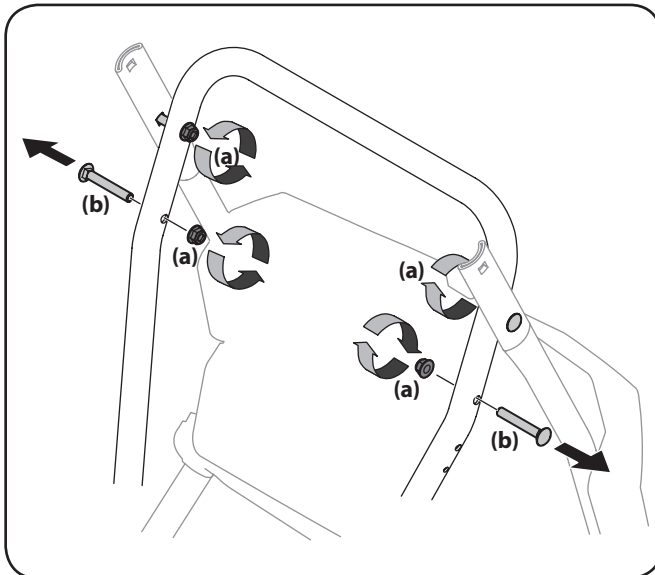

Figure 3-1
1. Loosen the top two lock nuts (a) securing the upper and lower handle and remove the two carriage screws (b) from the lower handle and set aside as shown in Figure 3-1.